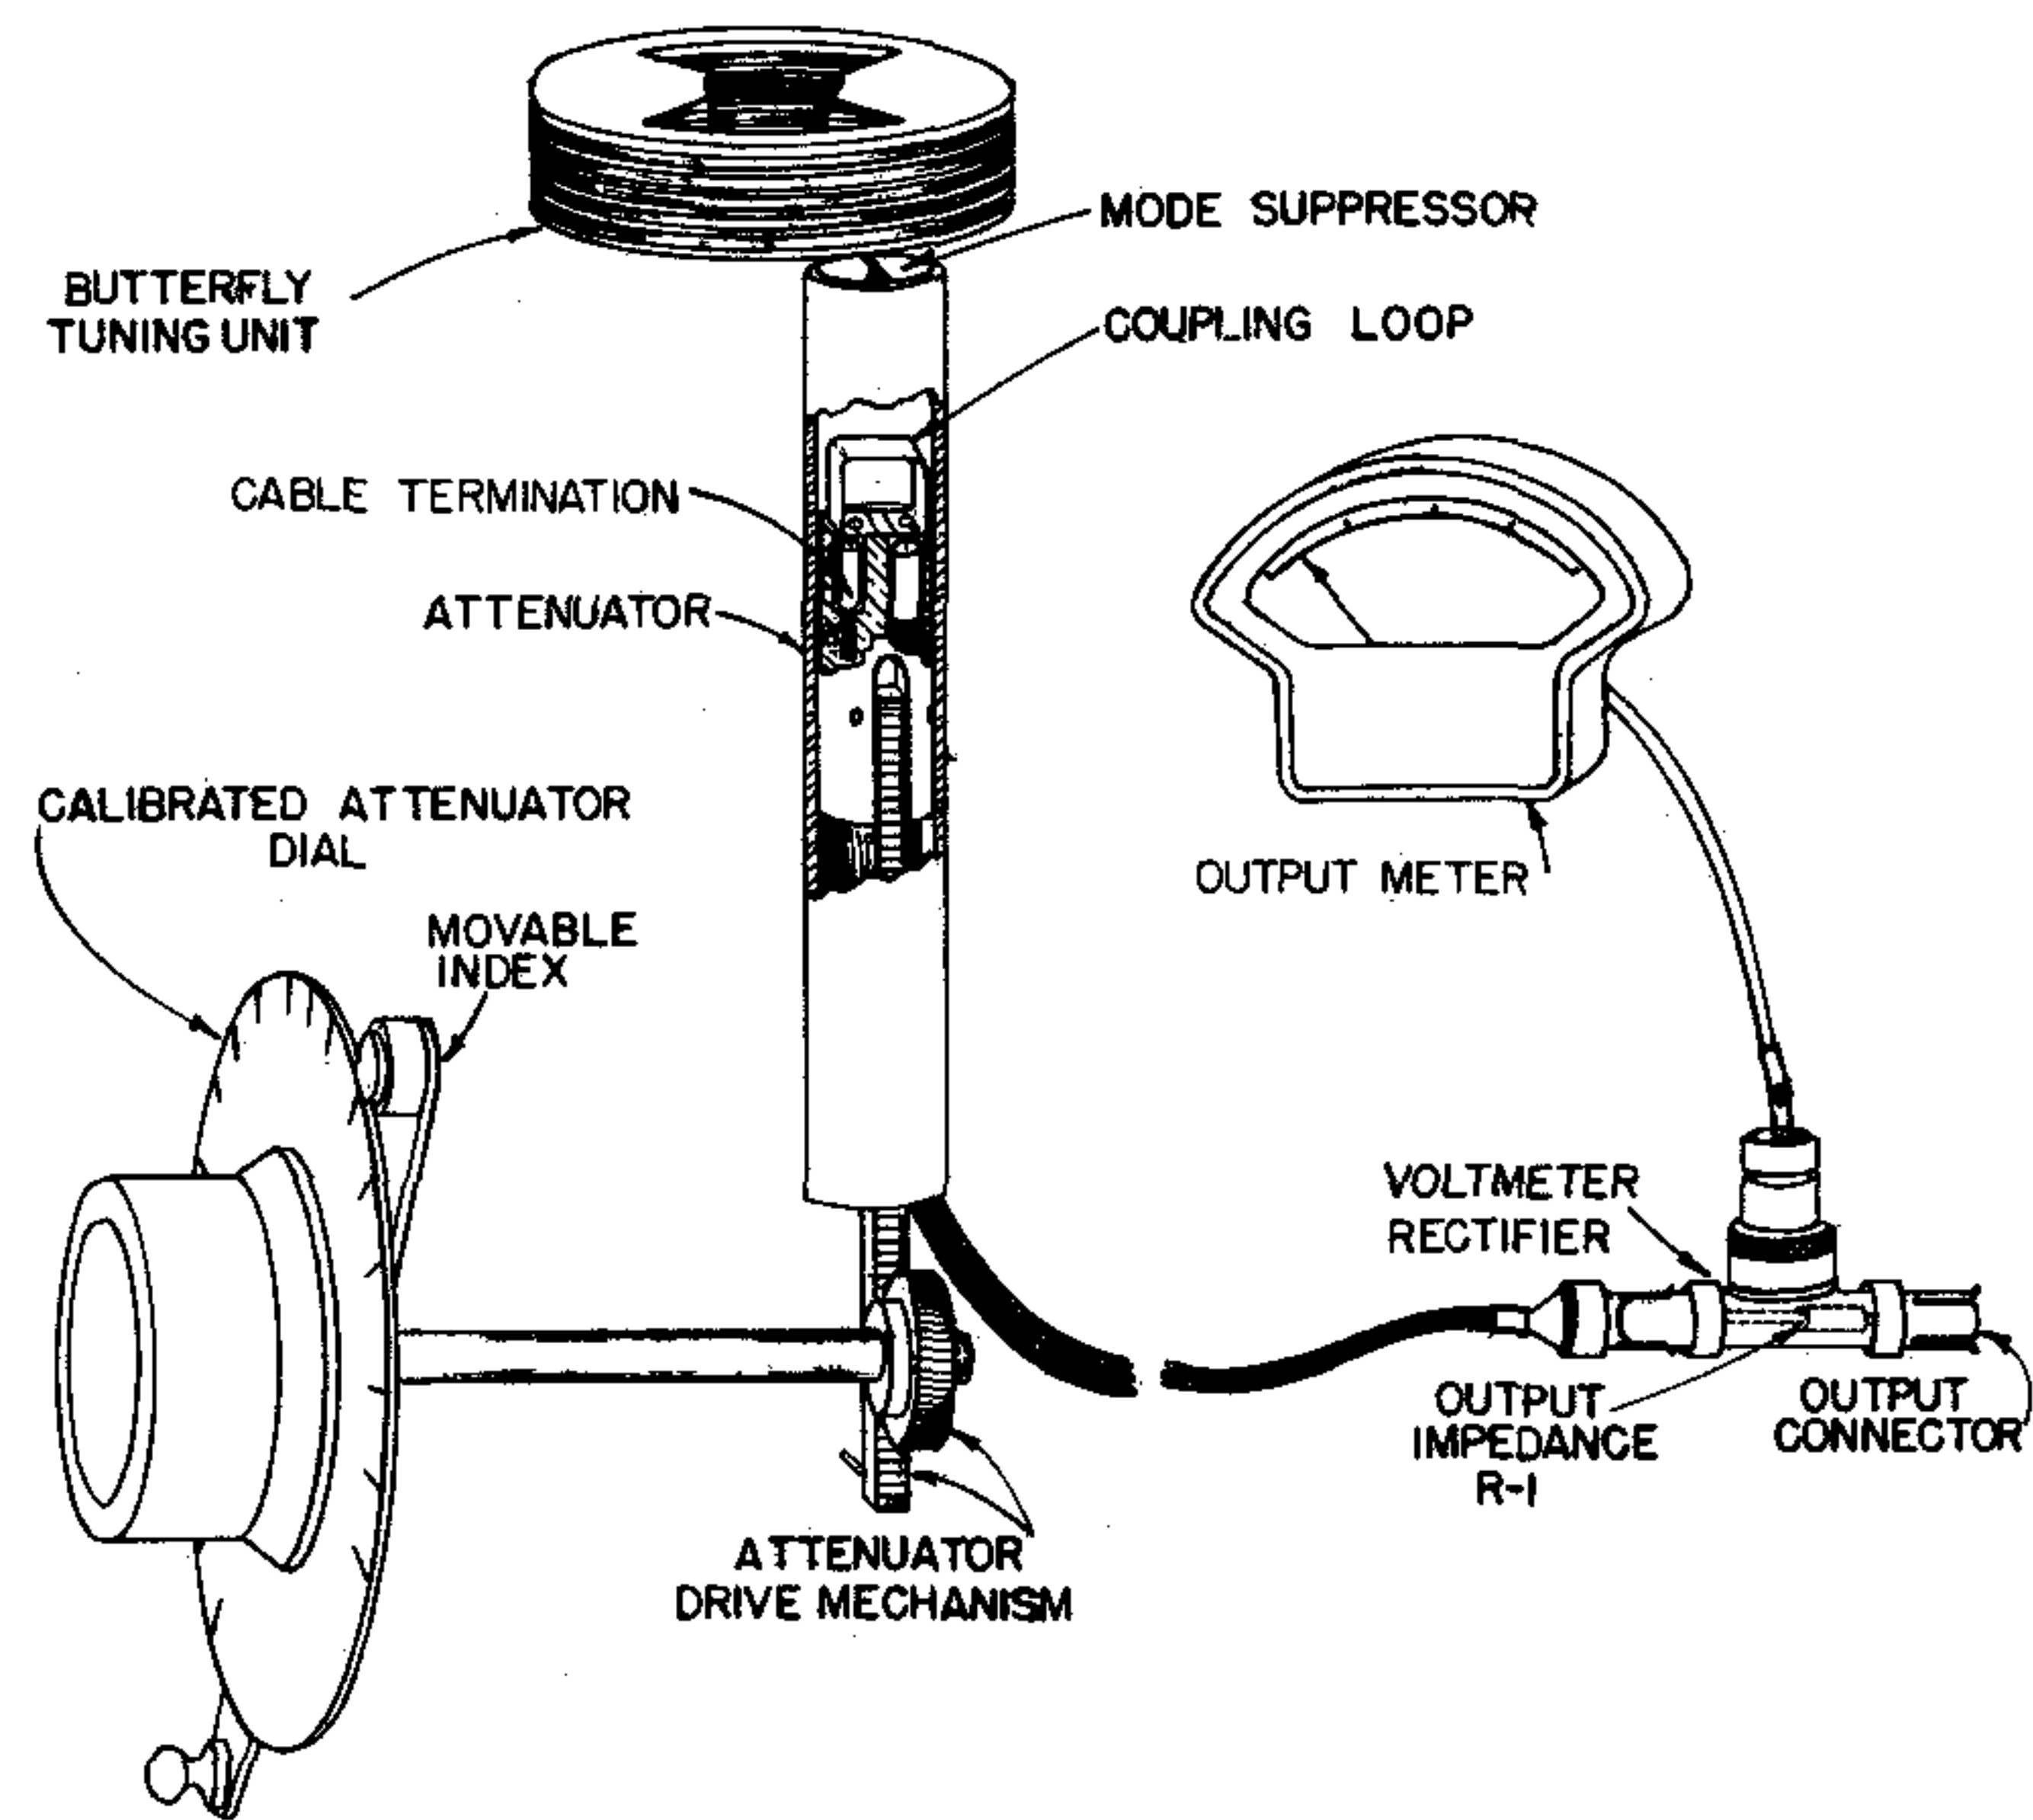

Figure 4. Functional Diagram of Output System.
2.4 OUTPUT SYSTEM. (See Figure 4.) One end of the attenuator pickup loop is grounded through a 50-ohm terminating resistor, and the other end is connected to a short length of 50-ohm flexible shielded lead, which connects to the Type 874-VR Crystal Voltmeter Rectifier mounted at the lower right-hand corner of the panel. The voltmeter unit is built into a coaxial T section and the r-f output voltage is measured at a point just ahead of the 50-ohm cylindrical terminating resistor in the center conductor of the output connector. The rectified output of the crystal drives the output voltmeter located on the power supply panel.